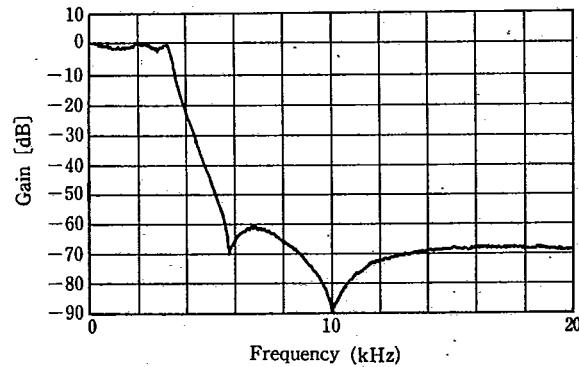

Fig. 1 TXLPF, RXLPF frequency characteristics
**(a) Transmitter** The transmitter (TX) executes interface from DSP to network hybrid. The transmission data obtained through D/A register of the monoport register is transferred to 10-bit D/A converter. After sampling, its output is passed through the low pass filter.
**① D/A converter** The D/A converter is composed of 10-bit electric charge redistribution type circuit, and its accuracy is determined by the ratio of capacitors. Therefore, high accuracy D/A conversion is made possible.
**② S/H circuit** The D/A converter output is sampled and held by 7.2kHz or 9.6kHz clock and is transferred to LPF.
**③ TXLPF** The TXLPF is composed of 5th elliptic function type switched capacitor filter. Its sampling frequency is 230.4kHz, and cut-off frequency of TXLPF is 3.3kHz. Fig. 1 shows frequency characteristics of TXLPF.
**④ TXAAF** The TVAAF is secondary active filter to cut off reflected noises around 230.4kHz caused by TXLPF. Its cut-off frequency is 15.6kHz.
**(b) Receiver** The receiver (RX) executes interface from network hybrid to DSP. An analog channel signal is limited around 3.4kHz band by receiving filter unit (AAF1, RXLPF, AAF2) due to it executes sampling at 7.2kHz or 9.6kHz. After that, DC cut signal by the external RC circuit is properly amplified by AGC (programmable gain controller) and is stored in the A/D register of monoport register as 10-bit digital value.
**① AAF1 and AAF2** The AAF1 and AAF2 are secondary active filters with 15.6kHz cut-off frequency.
**② RXLPF** The RXLPF is composed of 5th elliptic function type switched capacitor filter. Its sampling frequency is 230.4kHz, and cut-off frequency of RXLPF is 3.3kHz. Switching between 0dB and 10dB of the gain is possible by AGC register of the monoport register.
**③ Programmable gain amplifier (AGC)** With AGC, 64 kinds of programs are available with 0.75dB interval. Gain programming is controlled by setting the corresponding bit of AGC register of monoport register.